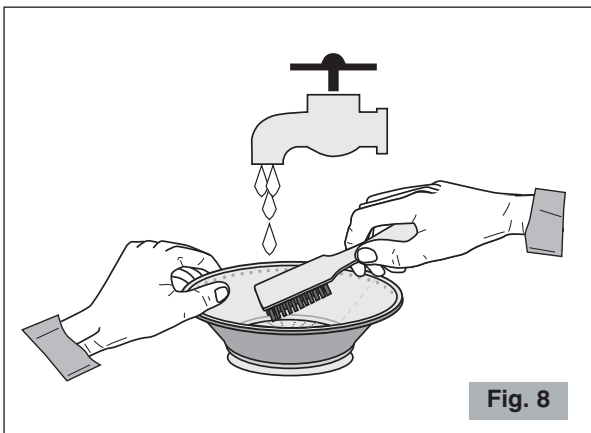

Fig. 8
- To obtain a higher yield of juice always control that the basket is well-cleaned by using a nylon brush. Put the basket under running water and use the brush to clean the inside of the strainer (see Fig. 8). Hold the basket up against the light to make sure that none of the perforations are blocked. Should the perforations of the strainer remain blocked, immerse the basket in a solution of hot water with 12% lemon juice or vinegar to loosen the blocked material.